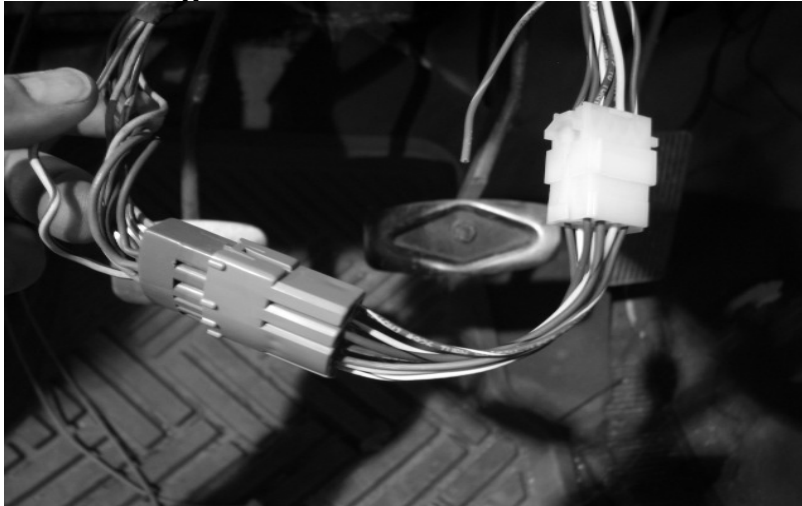

Figure 7-15 Late Model Turn Pigtail ('73-'77)
7.6.2 On 1973-1977 Model Trucks it will be necessary to use the provided "Late Model Turn Pigtail", when connecting the turn signal switch. The connectors for the late model switches ARE NOT available and are therefore not included in this kit. Both the connector and the "RED" terminal lock on the inside will need to be reused. Using a small flat screwdriver and/or a small pair of needle nose pliers, gently pry out the lock and remove the original wires. The pigtail wire colors match the original colors from the old harness. **See Figure 7-15. Note: If using a Tachometer, notice the signal wire for it is in the Turn Signal breakout of the harness.**